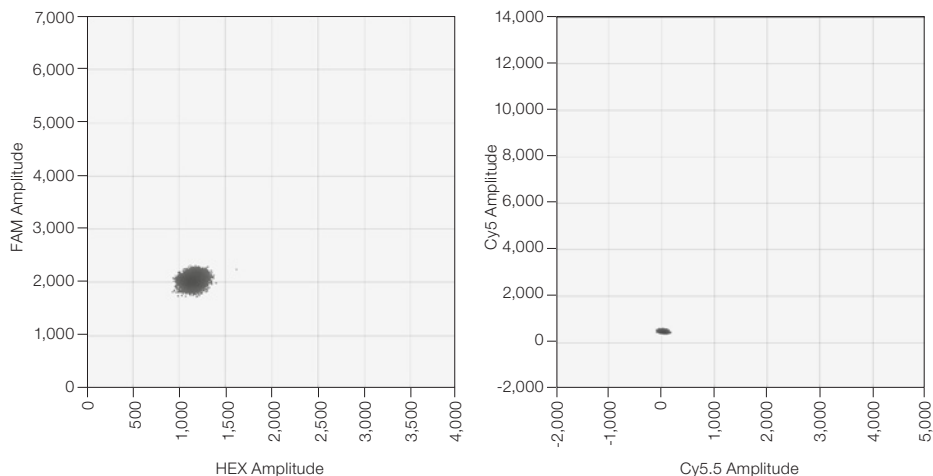

Figure 16. 2-D plots for 1 well of no template control.
1. Examine the NTC wells to detect potential contamination. Ideally, all other droplets should be classified as negative. Tolerance to positive droplets should be determined by the end-user. The recommended allowable range is 0–2 positive droplets per target. See Figure 16 for example 2-D plots.